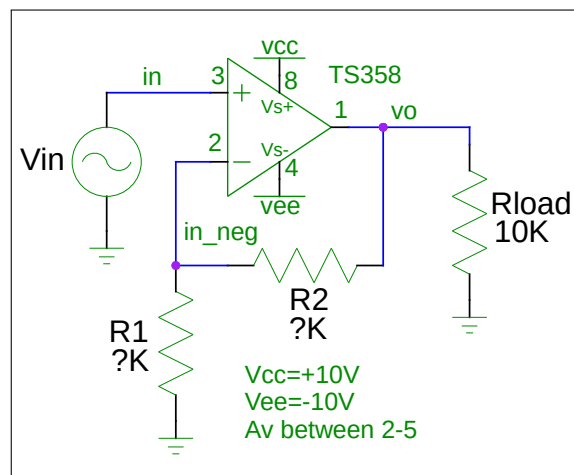

Figure 3: Non-inverting amplifier
- Copy the schematic in Figure 3 into your lab notebook. From available lab parts determine values for R_1 and R_f that will create an amplifier with a gain between 2 and 5. Values for R_1 and R_2 (R_f) should be between 1K and 50K ohms.
4. The function generator must be set for a zero DC offset (knob at 12'o'clock position) because the op amp is DC coupled in this circuit. See figure 3. Set the generator for a 1Vpp input signal at 1Khz.